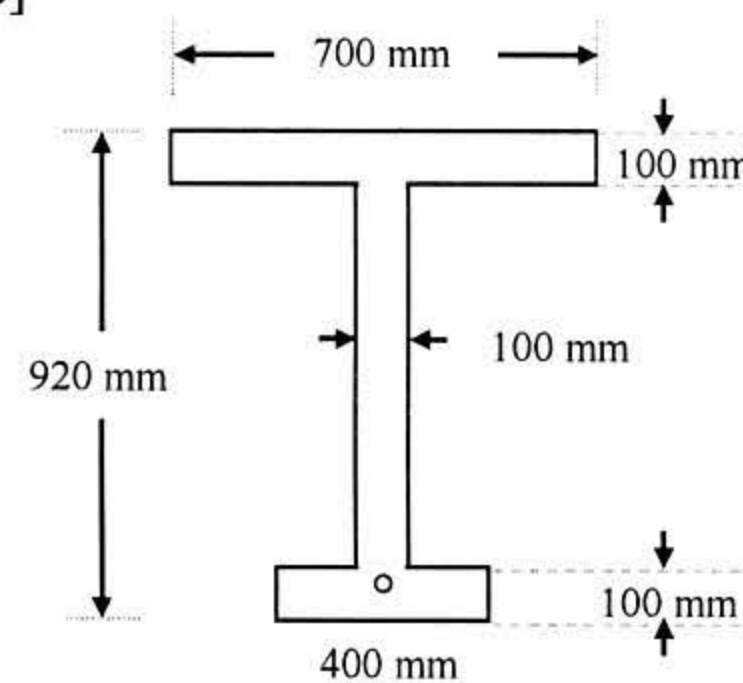

Figure 4
- 4.a) The midspan section of a composite beam is shown in **Figure 4**. The precast stem is posttensioned with an initial force of 950 kN. The effective prestress after losses is taken as 890 kN. Moment due to weight of the precast section is 134 kN-m at midspan. After it is erected in place, the top slab is cast in place with induced of 84 kN-m moment on the beam. After the slab concrete has hardened, the composite section is to carry a maximum live load moment of 252 kN-m. Calculate stresses at various stages and show stress distributions for the section. [Given: c.g.s. = 75 mm from base]